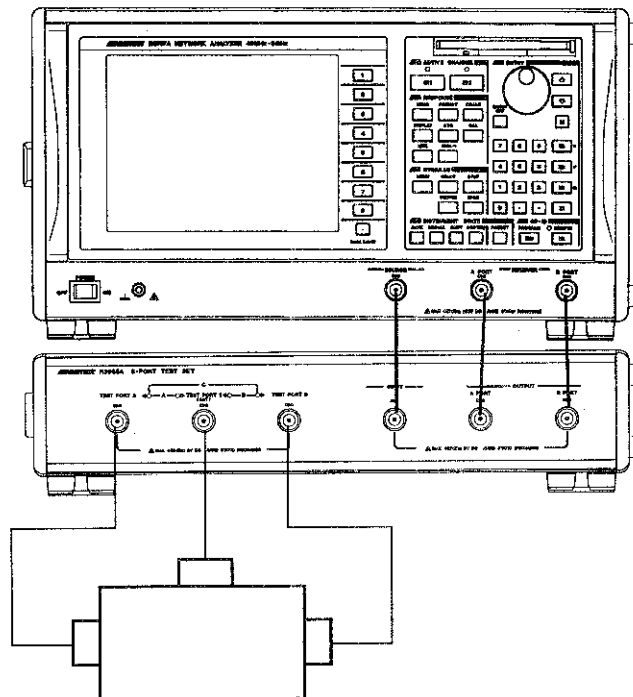

Figure 4-10 Setup Diagram
- ① Perform a setup and preset referring to Figure 4-10 and section 4.4.1 of the Network Analyzer Operation Manual.